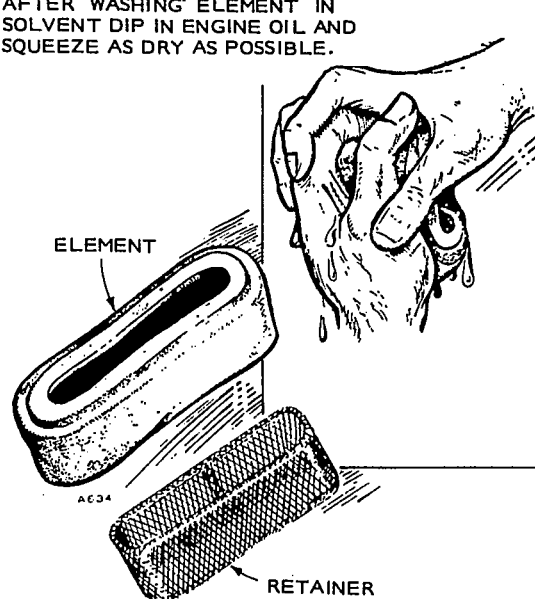

FIGURE 7. AIR CLEANER ELEMENT
E. **AIR CLEANER.** See Figure 7.